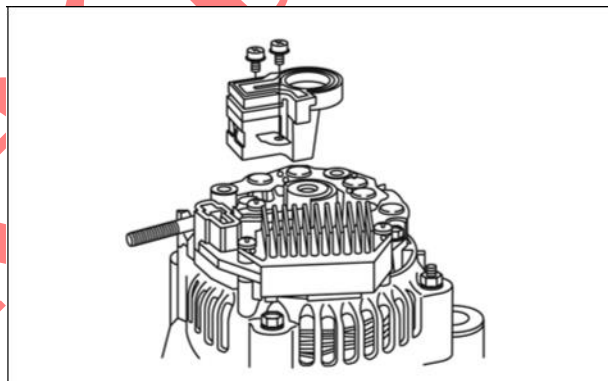

Figure 40
11. Install rear cover and screws (A, Figure 40). Torque to values listed in Section 14 - Engine Specifications.
12. Install insulator and nut (B) and torque to value listed in Section 14 - Engine Specifications.